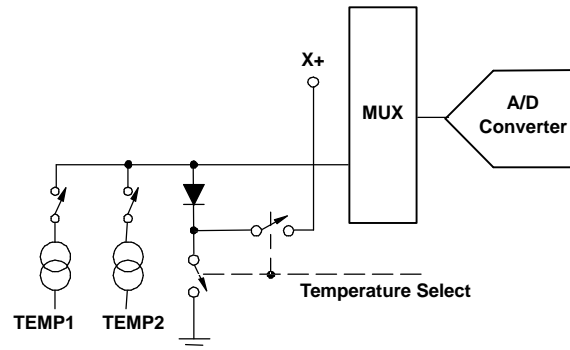

Figure 61. Functional Block Diagram of Temperature Measurement Mode.
The TSC2300 offers two modes of temperature measurement. The first mode requires calibration at a known temperature, but only requires a single reading to predict the ambient temperature. A diode, as shown in Figure 61, is used during this measurement cycle. The voltage across this diode is typically 600 mV at +25°C while conducting a 20-μA current. The absolute value of this diode voltage can vary several millivolts, but the temperature coefficient (TC) of this voltage is very consistent at -2.1 mV/°C. During the final test of the end product, the diode voltage would be measured by the TSC2300's ADC at a known room temperature, and the corresponding digital code stored in system memory, for calibration purposes by the user. The result is an equivalent temperature measurement resolution of 0.3°C/LSB. This measurement of what is referred to as Temperature 1 is illustrated in Figure 62.